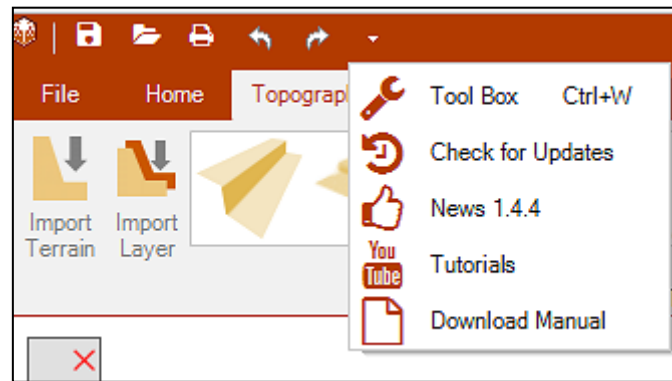

Fig. 12 - Option inside of quick access bar
- Open tool box, check for updates and news, tutorials and download the manual (Fig. 12).